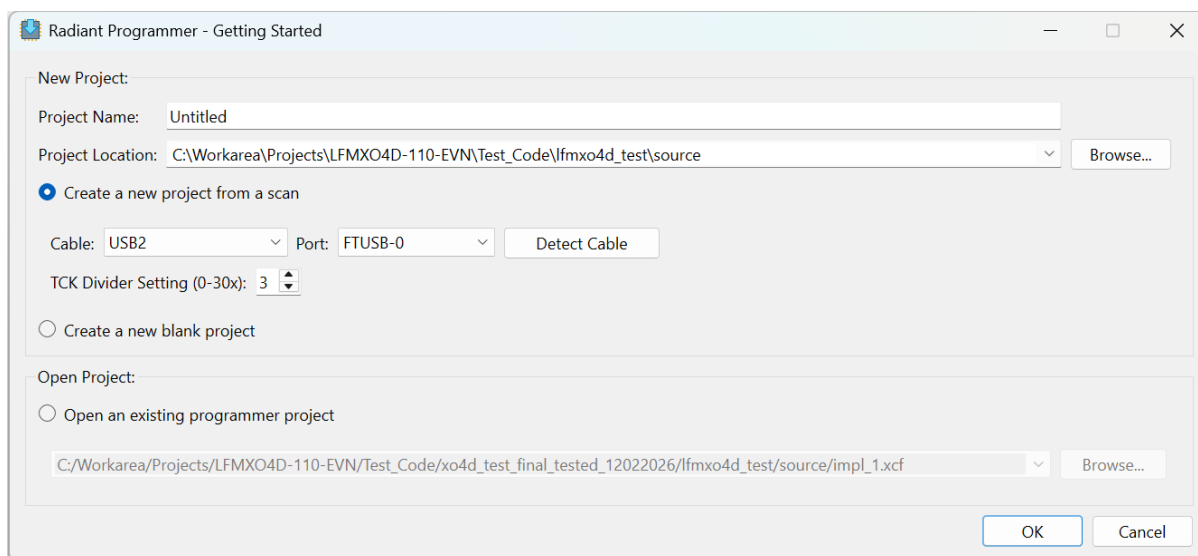

Figure 3.2. Starting Programmer
3. Verify that your PC USB hub detects the cable on Port 0, making it available for use with the Lattice Radiant Programmer 2026.1 or later. See Figure 3.2.